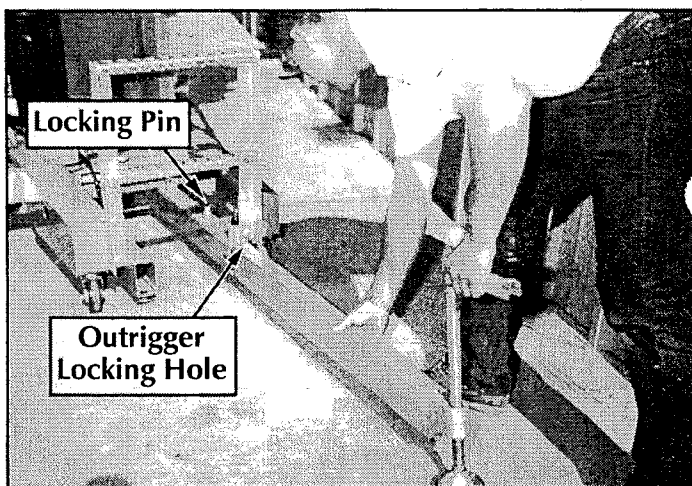
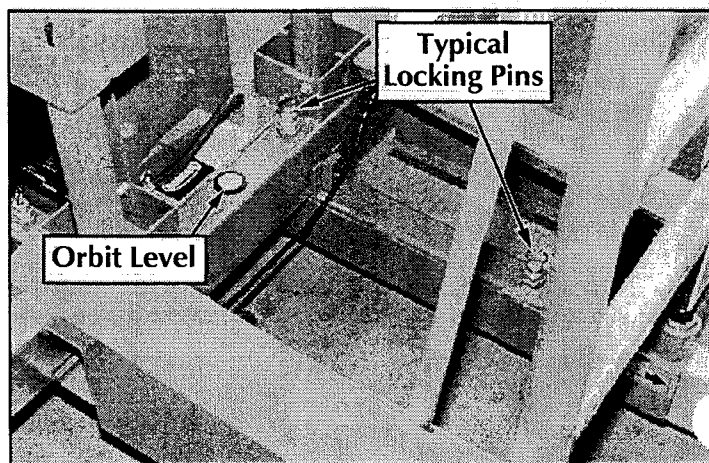

Figure 3-2: Inserting Outrigger
Figure 3-3: Base
2. Insert into designated outrigger socket in base (Figure 3-2).
4. Repeat the above steps for all four outriggers. Make sure all four (4) locking pins are engaged.
5. Level the base, centering the bubble in the Orbit Level on the base by adjusting the screwjacks at the end of each outrigger (Figure 3-3). **DO NOT** release the tension on an outrigger, by turning counterclockwise, to level base.
6. **All four (4) screwjack pads must be in solid contact with a firm surface before the platform is elevated.**
1. After all four (4) outriggers have been properly installed, slide the outrigger adjacent to the wall(s) all the way into the socket by lifting the ring on the locking pin (Figure 3-2) and pushing in on the outrigger.
3. Level the base, centering the bubble in the Orbit Level on the base by adjusting screwjacks at end of each outrigger (Figure 3-3).
4. **All four (4) screwjack pads must be in solid contact with a firm surface before the platform is elevated.**